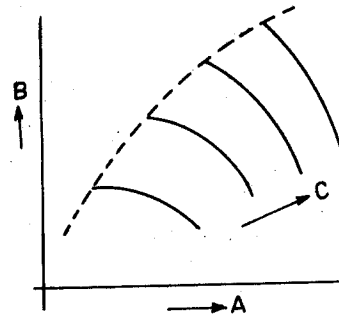

Fig. 5
8. Compressor characteristics are usually plotted in terms of the dimensionless parameters (viz. mass flow parameter $m\sqrt{T_1}/P_1$, pressure parameter p_2/p_1 , and speed parameter $N/\sqrt{T_1}$) in order to correlate performance at various values of intake pressure and temperature. A typical compressor "map" is shown in Fig. 5. A, B and C in Fig. 5 respectively refer to
Sol. (c) The x-axis in Fig. 5 represents mass flow parameter, and y-axis the pressure parameter. These curves are drawn for various speed (C) parameters.